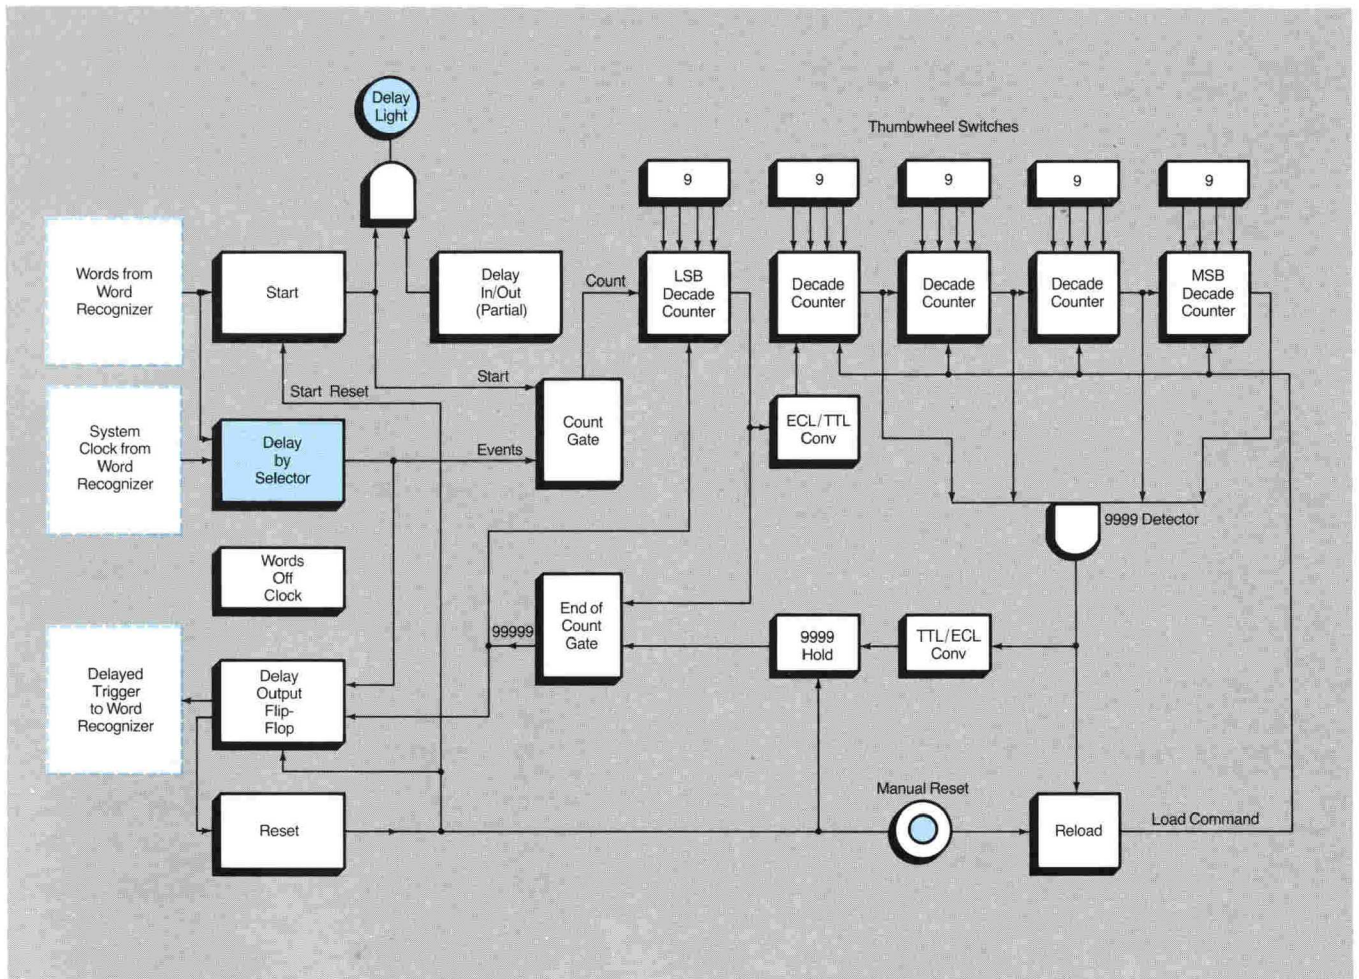

Fig. 2. Simplified block diagram of the digital delay portion of the WR 501. Delay is enabled by the word recognizer output. Manual
**Fig. 2.** The 4-k memory in the 7D01 is formattable. One of four 4 x 256-bit sections is shown. It can store 1024 bits from one channel, 512 from two, or 256 from four channels. In 4-channel opera-
Let's take a look at how this is accomplished (see figure 2). The 16 data inputs are arranged in groups of four, each group coupled to a corresponding 4 x 256-Bit RAM. In the 4-channel mode of operation, the Data Selector functions as a 4-bit shift register, acquiring four bits of data input from channel 0. The Data Latch transfers the data from the outputs of the Data Selector to the inputs of the four, 256-Bit RAMs. Through a three-gate arrangement controlled by the DATA CHANNELS switch, the outputs of the RAMs can be added to give us a single 1024-bit memory, two 512-bit memories, or four 256-bit memories. The function of the Data Selector is also controlled by the DATA CHANNELS switch to pass four bits of data from one channel, two bits from each of two channels, or one bit from each of four channels, to the Data Latch.
Moving along to the delay circuitry block diagram shown in figure 2, we see that the Delay By Selector routes either the system clock or the output from the word recognizer to the counter circuitry. The word recognizer output also goes to the start circuitry to initiate counting.